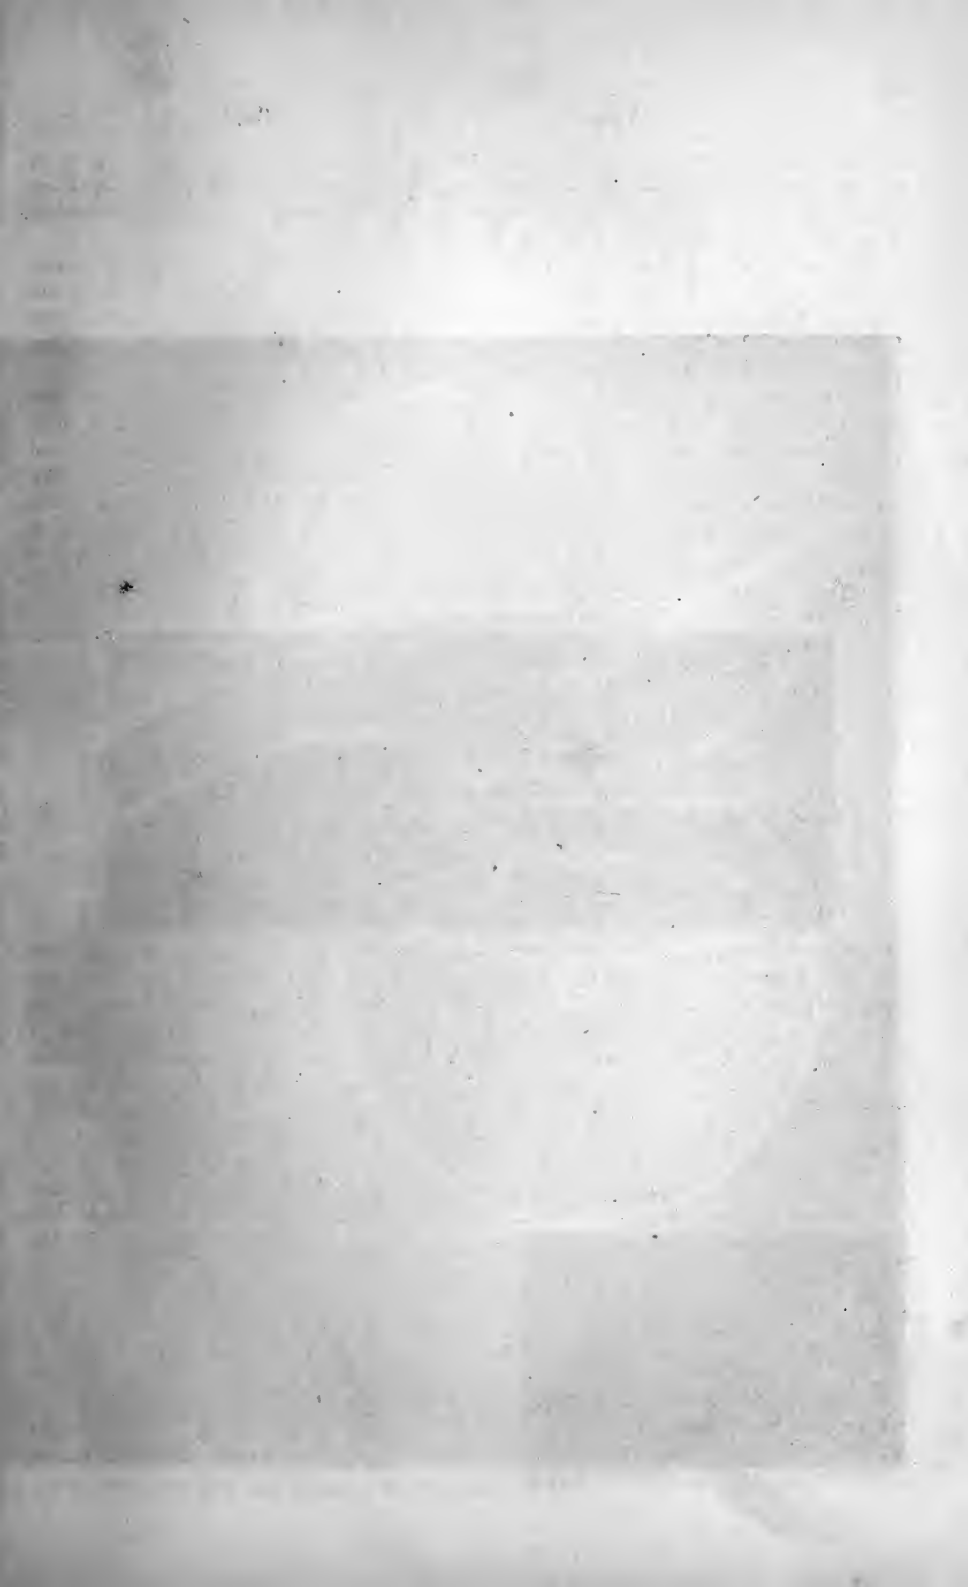

FIG.1
Fig. 1 represents a die plate for cutting the thread of clips, where a common or straight die plate would interfere with the opposite shank of the clip, to that intended to cut; bend both shanks of the clip sidewise, so as to bring your die plate in a diagonal position, and you can operate it at pleasure.
Fig. 2. Top view to Fig. 1. The dies are mitred, and held firm in their corresponding cavity, by plate A, Fig. 1, screwed to the bottom of the frame. Carriage bolts are got up cheaper, more uniform and superior to those made by hand in manufactories for that purpose; all that remains to be done in the smith shop is to replace the nuts, which always seem to be, more or less, wasted or lost.
4. *Parallel forces.*—We apply the term parallel to such forces as move alongside of one another on the same body. For instance, if we take the case of the hook, which seems to suspend the seven weights, according to square B, Fig. 1, were missing (to give way), the weights would all fall to the ground at the same time, and would describe respectively the vertical lines 1, 2, 3, 4, 5, 6, 7. These lines are all parallel, and we conclude that weights or forces move in parallel directions.